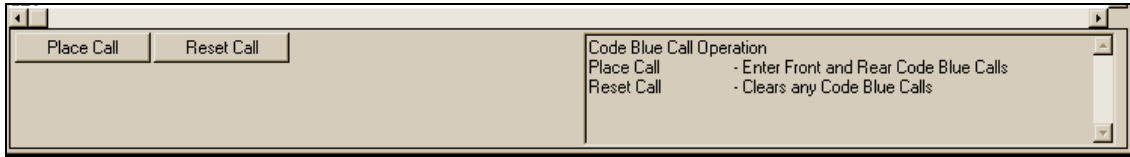

**Figure 87**
**View Table:** The **View Table** pushbutton shows the current hall call table for the selected reference elevator. The command transmitted to the elevator controller is SCA. The elevator controller responds through the Terminal Window showing the command sent, the elevator the table is for, and the actual table. Refer to Figure 87. The description pane of the Definition Bar shows the meaning of the floor value displayed within the Terminal Window. All responses are in the form of a hexadecimal number, indicated by the H after the value for the floor. If a floor has a rear opening, the corresponding floor value would have two digits before the H. The first of these would be the value for the rear opening.